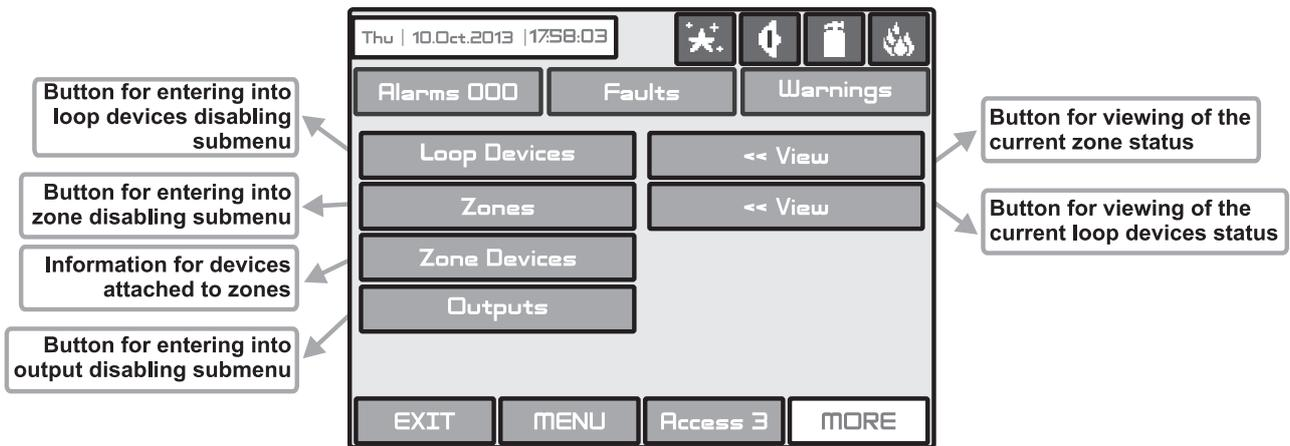
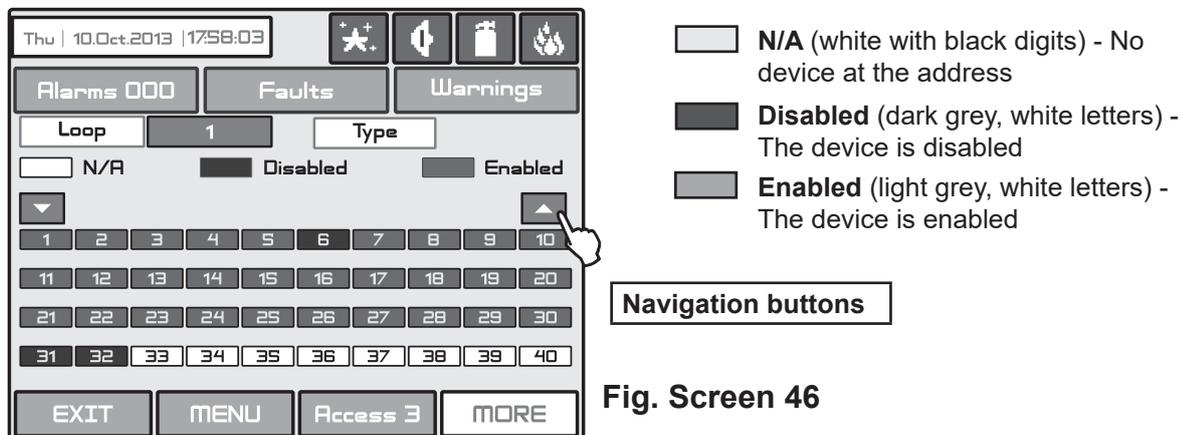
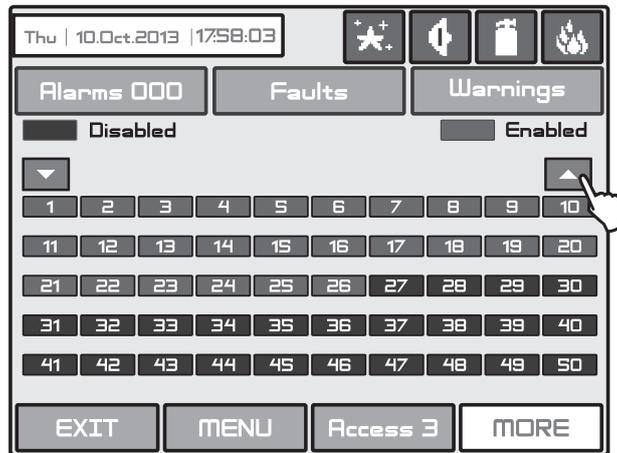
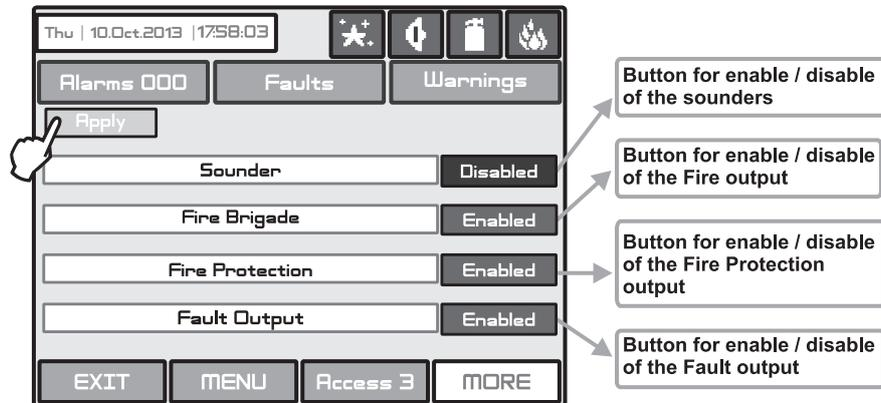

Fig. Screen 45.
Fig. Screen 46
Fig. Screen 47
Fig. Screen 49
The user/installer can enable or disable the loop devices, zones and the outputs of the fire panel. To introduce enabling or disabling a function you can directly choose the respective button and make corrections, or first by pressing “View” button to look at the current status of the system and after that, if it is necessary, to enter new data – Fig. Screen 45.
The user/installer could first look at the current status of the loop devices by choosing “View” button situated next to the “Loop devices” button - see Fig. Screen 45. The current status of the loop devices programmed earlier in the system are displayed on the screen (see part Programming, item 3.3.2 Loop Devices) - Fig. Screen 46.
The user/installer could first look at the current status of the zones by choosing “View” button situated next to the “Zones” button - see Fig. Screen 45. The current status of the zones in the system are displayed on the screen (see part Programming, item 3.4 Zones) - Fig. Screen 47. In the case of a disabled zone, the panel generates a message “Zone Disabled” and the “Disable” LED on the control panel is activated.
Note: From the disabling menu you can directly enter in the loop devices configuration menu (Fig. Screen 8) / zone configuration menu (Fig. Screen 14) as choose “Loop Devices” / “Zones” button (Fig. Screen 45).
From the menu for disabling introduction - Fig. Screen 45, the user/installer can also review the addresses of all devices attached to any zone in the system. Press the “Zone Devices” button. At the screen is presented information for loop and zone number with a list of available devices.
From the menu for disabling introduction - Fig. Screen 45, the user/installer can disable or enable the monitored outputs of the IRIS fire panel - **Sounder**, **Fire Brigade**, **Fire Protection** and **Fault Output** - Fig. Screen 49. Use the **APPLY** button to confirm your choice.